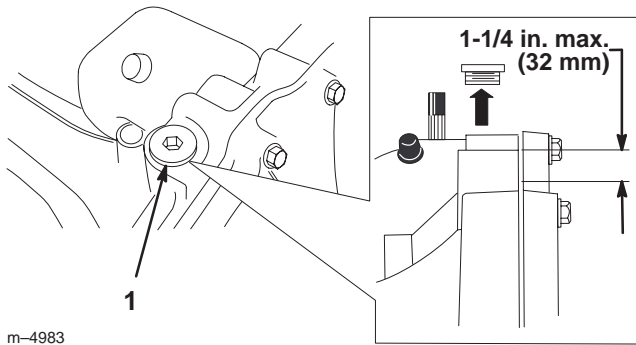

Figure 29
2. Clean around the fill plug (Fig. 29) so that dirt cannot fall into the reservoir if fluid needs to be added.
3. Remove the fill plug and check the fluid level. The level should be a maximum of 1-1/4 in. (32 mm) below the top of the fill port (Fig. 29). Add oil if necessary.